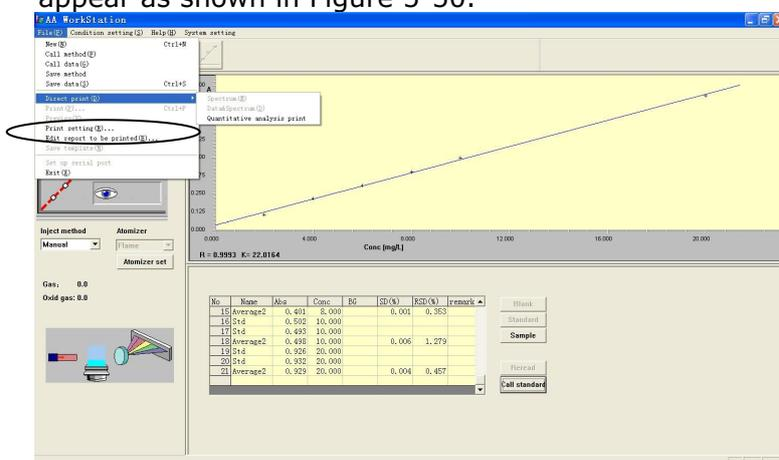
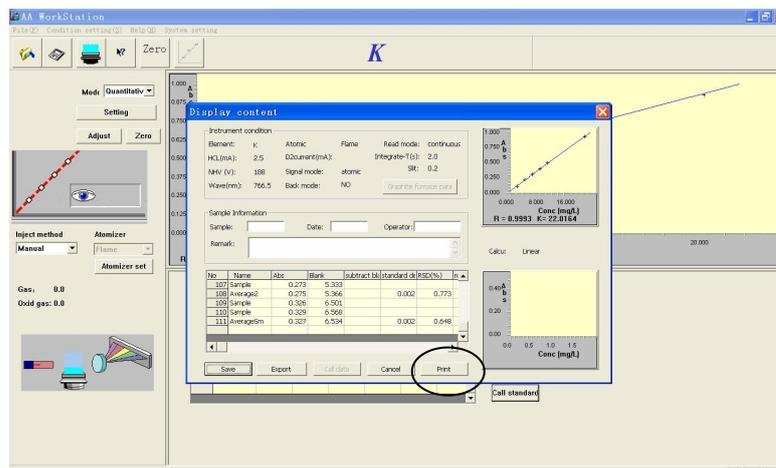

Figure 5-49
Figure 5-50
1. Select "Directly printing > Quantitative analysis printing" in the "File" menu, as shown in Figure 5-49. The "Display information" dialog will appear as shown in Figure 5-50.